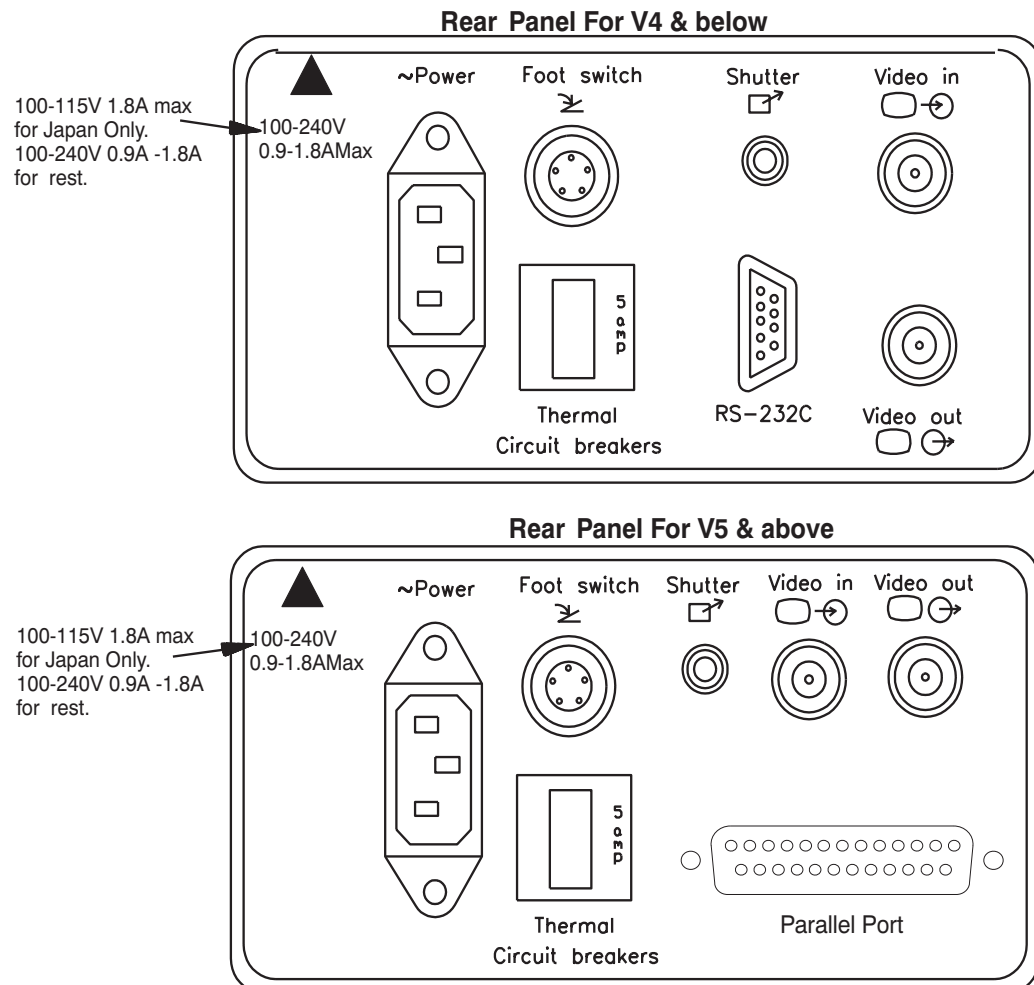

Figure 3-15 Installation of Accessories
- 1.) Unpack the foot switch and connect it to the connector on the rear panel. (Refer Figure 3-15)